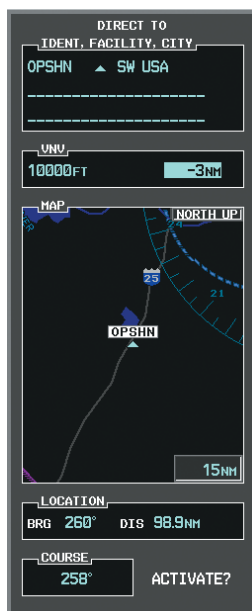

Figure 5-123 Enter VNV Offset Distance
- f) Press the **ENT** Key. The cursor is now displayed in the VNV offset field as shown in Figure 5-123.